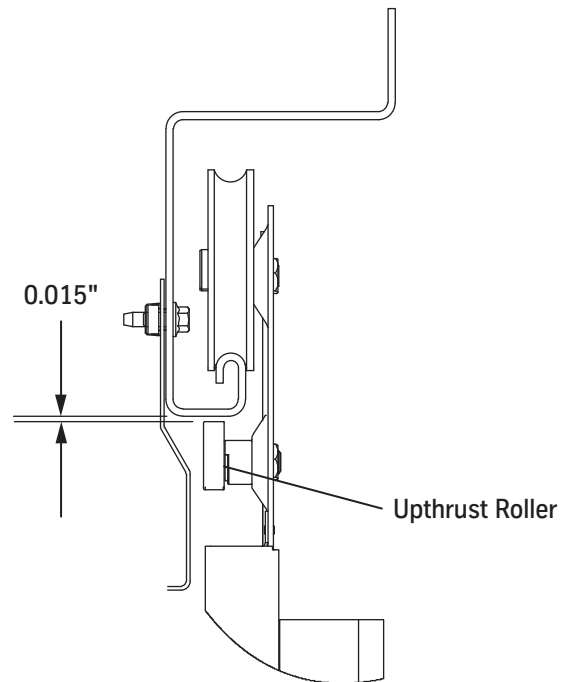

Figure 62- Adjust Upthrust Roller Clearance
2. Adjust the eccentric so that a gap of 0.015" is between the upthrust roller and the door track. See Figure 62.